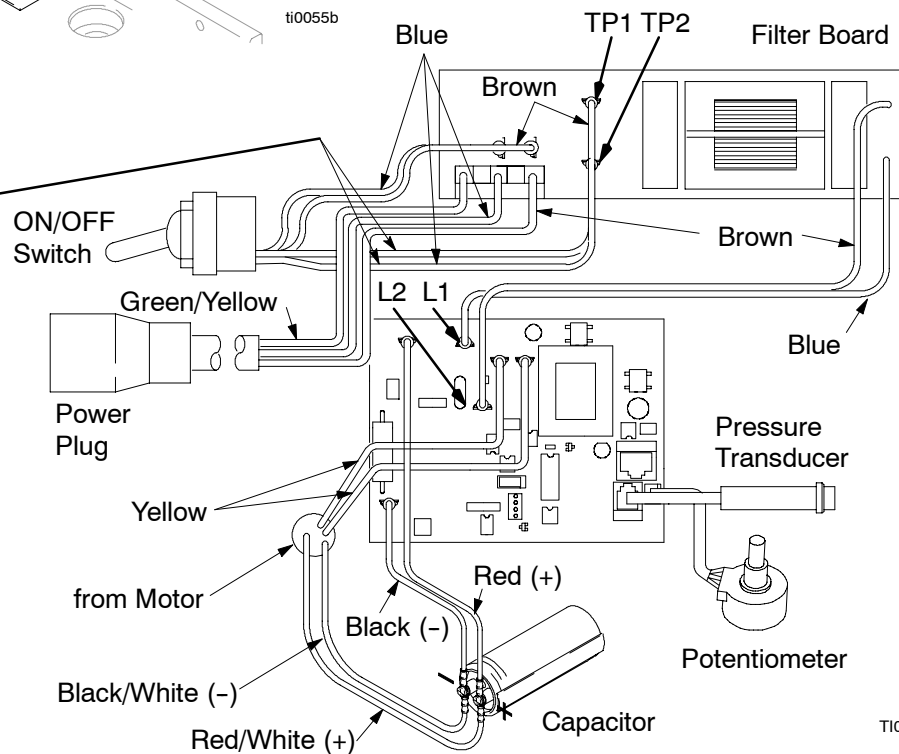

Fig. 14
2. Fig. 14. Remove pressure control cover (39).
3. Disconnect four wires (A) at ON/OFF switch (23).
4. Remove toggle boot (25) and locking ring (24). Remove ON/OFF switch (23).